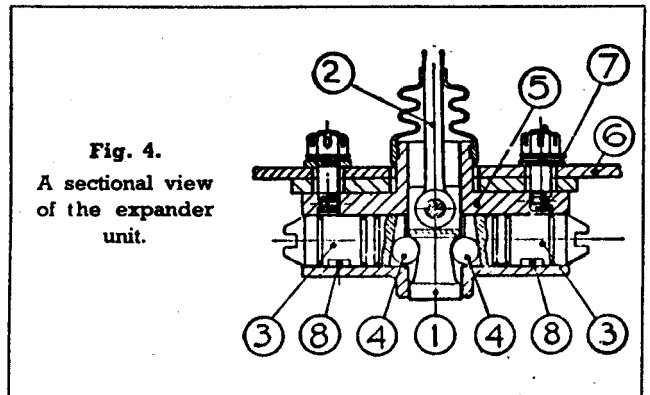

Fig. 4. A sectional view of the expander unit.
The function of the expander is to convert the pull by the rod into an expanding movement. Reference to Fig. 4 shows that the unit consists of a housing (5) which is bolted (7) to the backplate (6). As the pull on the rod (2) moves the cone (1) inwards, the two rollers (4) are pushed outwards against the plungers (3) forcing them apart. Pins (8) hold the plungers in the housing when the brake shoes are removed.